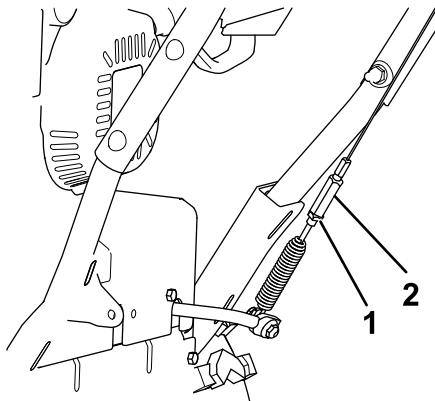

Figure 29
- 5. Loosen the jam nut (Figure 29).
- 6. Loosen or tighten the turnbuckle that adjusts the tension on the cable (Figure 29).